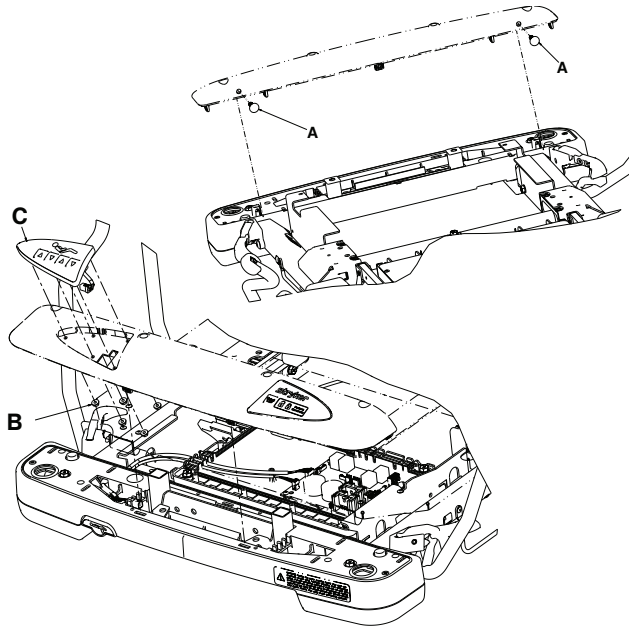

Figure 34 – Operator control board replacement
4. Using a slotted screwdriver, remove the two panel fasteners (A) (Figure 34). Save the panel fasteners.